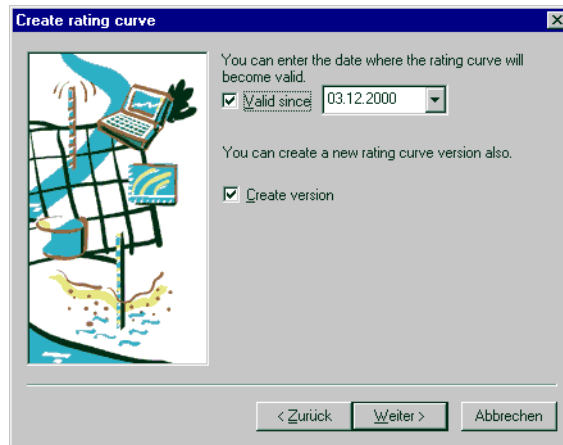

Fig. 204 Wizard: Step 3
- Anyway, activate the check box to create a new version and click on <Next> to continue (cf. Fig. 204, page 301).